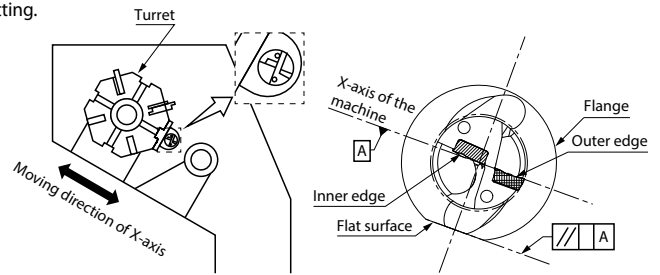
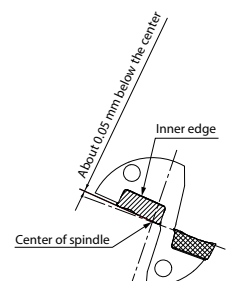

Fig. 1 Installed into the lathe
Fig. 5 Front view of the drill
- Align the scale at the flange periphery of the sleeve to the center of the coolant plug of the drill. (Fig. 1)
2. It is recommended to set the outer insert as shown in Fig. 1 with the outer insert facing the operator. (Fig. 1)
When installing inner insert as shown in Fig. 1, it will be set around 0.05 mm below the center of spindle. (Fig. 5)